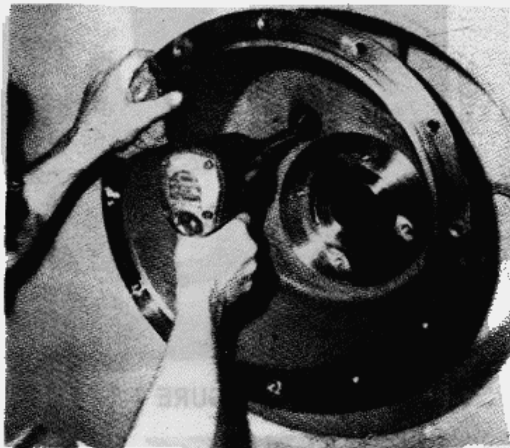

FIGURE 7-89.
b. Align the capscrew mounting holes of the bearing carrier flange with those of the drum flange. This can be done through the access hole in the back surface of the motor housing. Coat capscrews with John Crane number 2 seal. Insert capscrews and torque per specifications (see figure 7-89). Torque C350B cap- screws to 130 ft.-lbs. (17.98 kg-m).